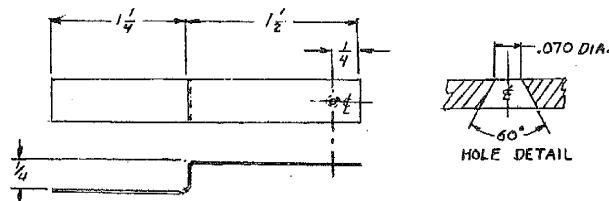
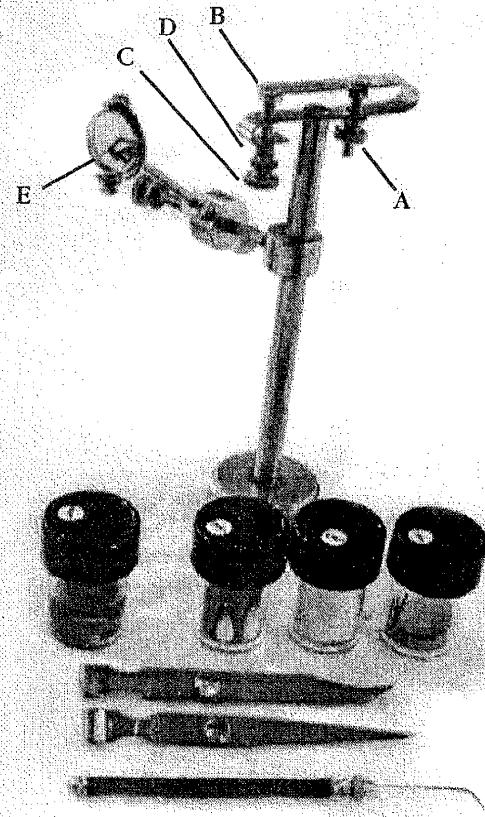

Fig. 5 Construction of a 'focussing' water drop microscope.
Fig. 6 Construction of the Hirsch Leeuwenhoek-inspired water drop microscope.
Concerning the liquid lens, there are avenues of investigation which may be worth pursuing, such as: 1. Transparent fluids with refractive indices and surface tensions other than that of water, such as glycerine and sodium silicate (water glass) 2. Fluids tinted blue, or with other colors to act as combined lenses and filters. This lens portion is a rounded, tapered hole in which the water drop is retained. (See Fig. 5) Drill a hole of about .070" dia. in a .031" thick metal sheet such as brass. Holes larger or smaller than .070" dia. may also be evaluated. With a countersink bit, form a 60 degree cavity flaring outward at the bottom of the hole to aid in producing drops with convex surfaces. Remove burs which may have formed on both sides of the hole. Remove all dirt and greasy substances from the top and bottom areas around and in the hole after fabrication. Coat the area surrounding the hole with a thin film of water repellent, such as petroleum jelly. The film prevents 'wetting' of the surface area around the hole, assuring the sphericity of the water drop. Wipe off residue with tissue.
Carrying the water-drop microscope concept a step farther, we use Leeuwenhoek derived logic to emulate his timeless masterpiece. We fashion our version of a water-drop microscope from a length of brass strip, .375" wide x .031" thick x 6" long. A couple of bends gets the device looking like the illustration in Fig. 6. The dimensions shown are tentative and may be changed along with the configuration as the prototype is finalized. For the 'lens', we selected an opening 0.070" diameter, tapered and oriented as shown in detail in Fig. 5. Adjusting screw (A) acts as 'fine' focus, moving the water drop 'lens' in a vertical direction. The specimen holder, or stage (B), is actuated by course adjustment (C) to move vertically, serving to set the initial distance between the stage and the water-drop lens, and to rotate the specimen. A small diameter hole in the middle of the stage retains a pin (see detail) for holding small objects such as insects. The bend-back of the stage screw holder and the inclusion of a helical spring (D) to take up slack on the stage mount, complete the instrument. An auxiliary stage attachment along with self-sticking black and white stage covers are also provided.